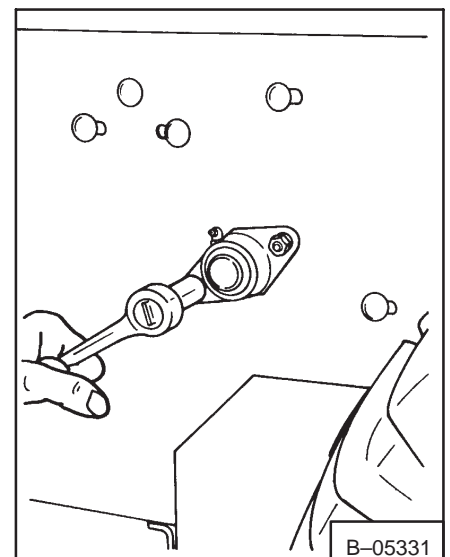

Fig. 3-8 Removing Pivot Bearings
7. Remove the bolts at the pivot bearings (Fig. 3-8) both sides of the steering levers.
2. Install the bolts and nuts in the pivot bearings (both sides) and tighten to 25-28 ft.-lbs. (34-38 Nm) torque (Fig. 3-8).